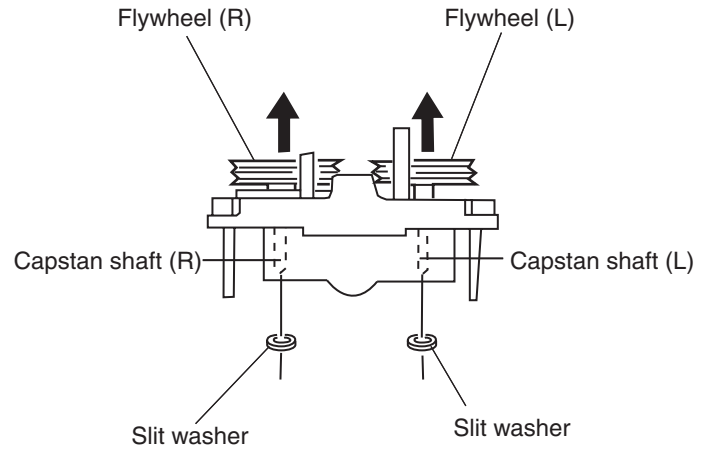

Fig. 7
■ Removing the flywheel (See Fig. 7, 8)
3. After turning over the cassette mechanism, remove the two slit washers and fixing the capstan shafts R and L, and pull out the flywheel (R) and (L) respectively from behind the cassette mechanism.